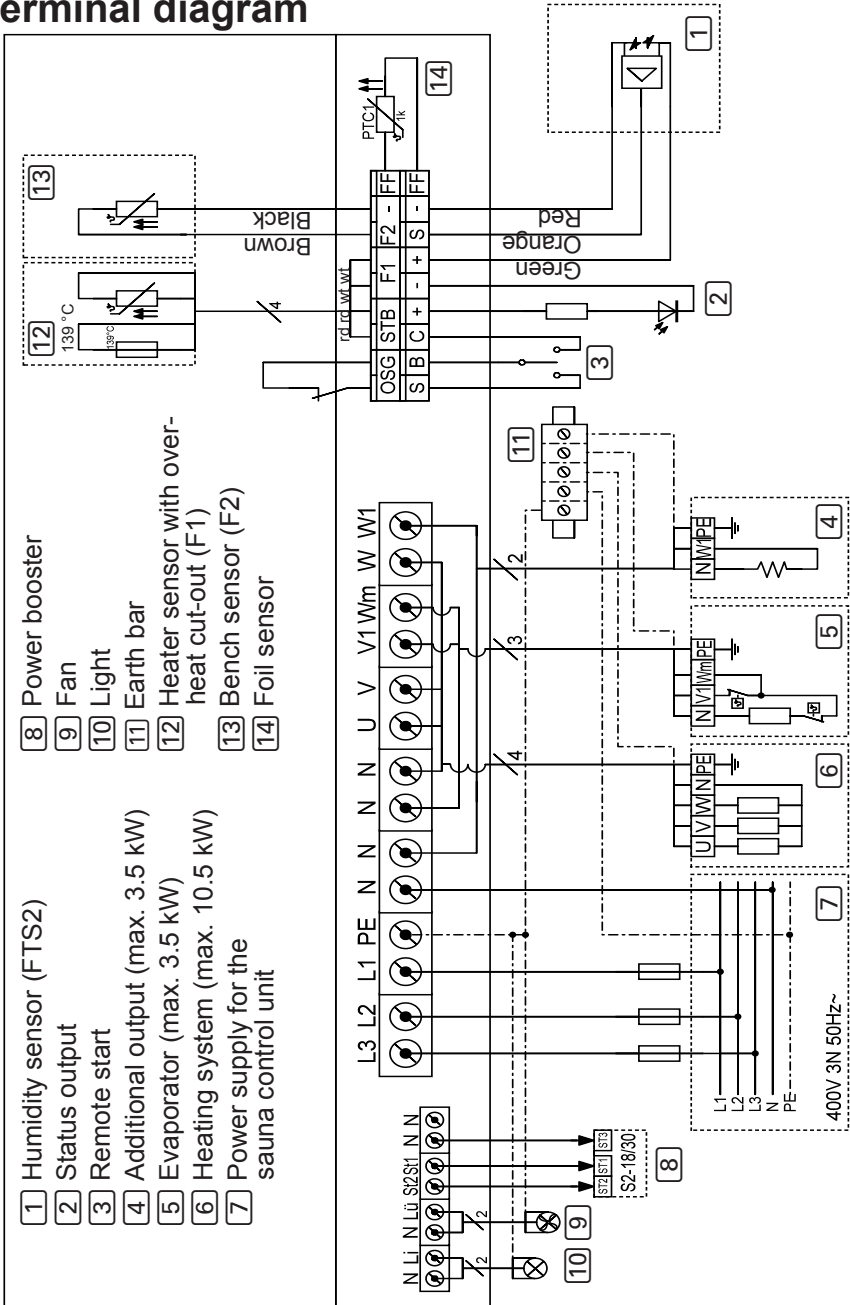

Fig. 10 Terminal diagram
- Observe the terminal diagram (**Fig. 10**) on page **34**.